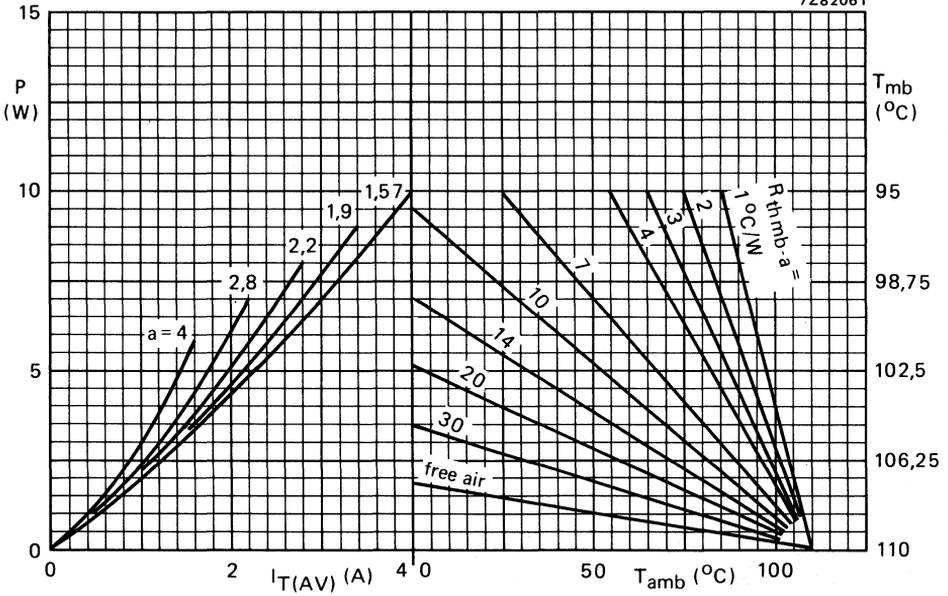

Fig. 5 The right-hand part shows the interrelationship between the power (derived from the left-hand part) and the maximum permissible temperatures.
- The method of using Fig.5 is as follows: